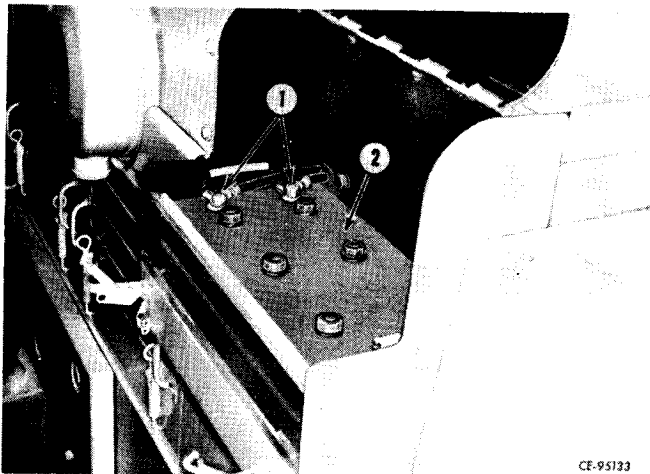

Figure 2-2
Remove battery cables (1, Fig. 2-2) from batteries (2) on each side of the unit. Remove ground cable first.